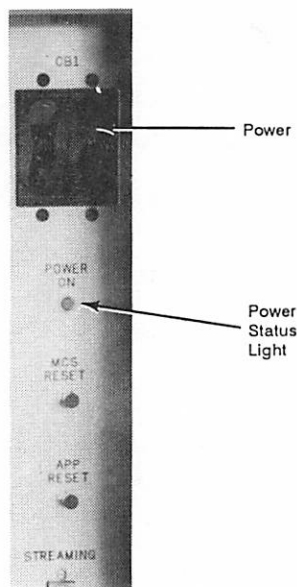

Figure 5-1. Apply Power to the MCS with the Main Circuit Breaker (CB1)
2. Apply power to the MCS by switching on the line circuit breaker located at the front of the MCS (Figure 5-1).